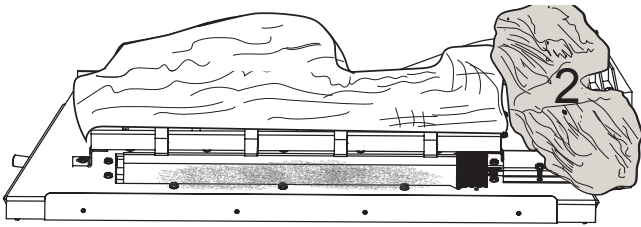

Figure 6.12 - Log #2 Placement
- Hold log #2 with the flat surface to the right. Place log #2 to the right side of the burner assembly by positioning the pin locator hole on the bottom of the log over the pin on the right-hand side. See Figure 6.12.